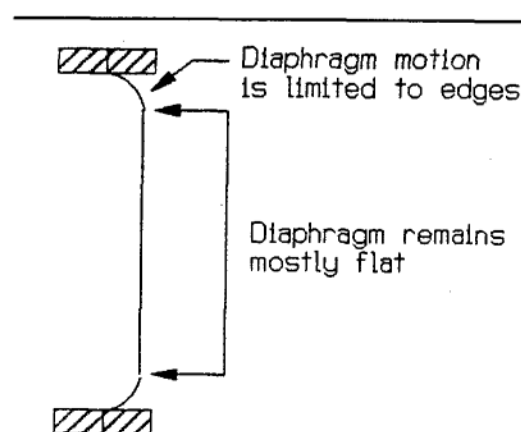
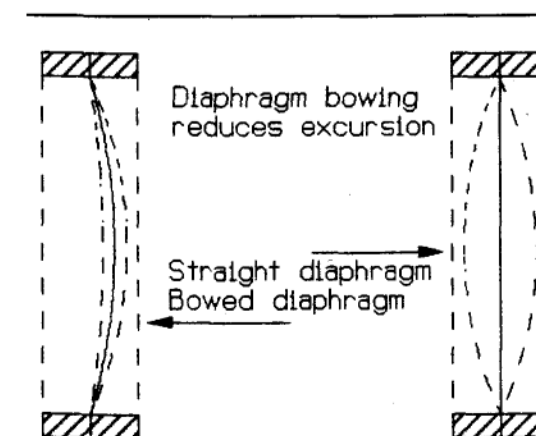

FIGURE 5-7: Diaphragm shape.
FIGURE 5-8: Diaphragm bowing reduces excursion.
The elastic edge width varies depending on excursion, but is generally about 1/4-inch wide around the perimeter of the free diaphragm area. This piston motion is superimposed on the slight arc of the diaphragm caused by the polarizing voltage. The diaphragm has a complex shape, which I've simplified in Fig. 5-7 for clarity.
**DIAPHRAGM BOWING.** The diaphragm can't use the total D/S spacing. As discussed previously, the polarizing voltage forces the diaphragm to bow slightly. This reduces excursion by the amount of diaphragm offset. Figure 5-8 shows a highly exaggerated view of this. It also shows the diaphragm as if it were moving in an arc for clarity, although, as previously shown in Fig. 5-7, it has a piston motion.